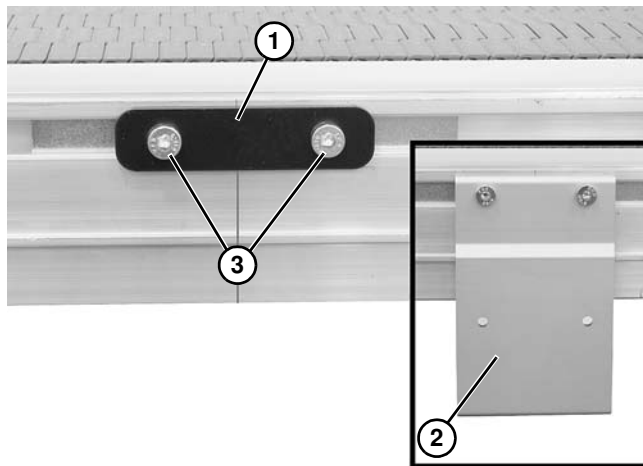

Figure 6
2. Join conveyor sections and install connector brackets (**Figure 6, item 1**) or connector/mount brackets (**Figure 6, item 2**) and screws (**Figure 6, item 3**) on both sides as indicated.
3. Tighten screw (**Figure 6, item 3**) to 7 Nm on both sides of conveyor.